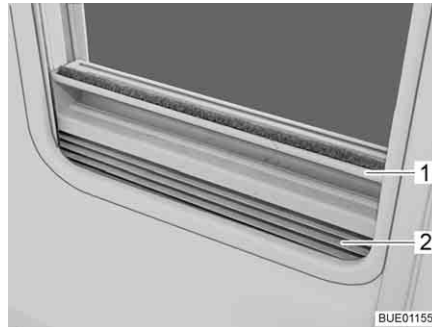

Fig. 29 Roman shade
- Grip the Roman shade (Fig. 29,2) in the middle of the holding bar (Fig. 29,1), pull it upwards and then release it at the desired height. The Roman shade will stay at this height.